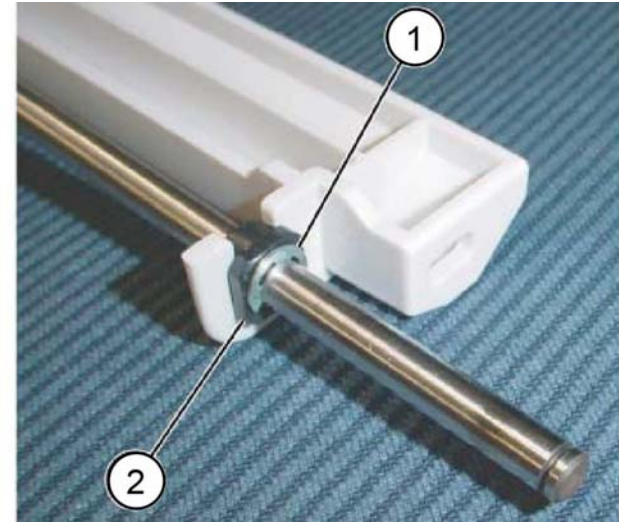
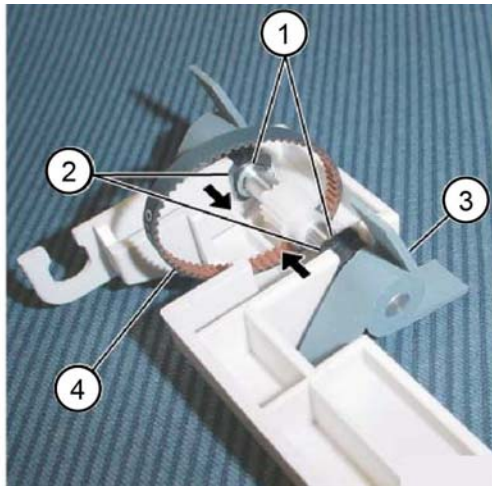

Figure 6 Bearing removal
Figure 8 Rear paddle belt removal
8. Remove the bearing, Figure 6:
- a. Remove the E-clip (1).
- b. Remove the bearing (2).
10. Remove the paddle belt, Figure 8:
- a. Remove two E-clips (1).
- b. Move the two bearings (2) in the direction of the arrow.
- c. Remove the sub paddle shaft assembly (3).
- d. Remove the rear paddle belt (4).